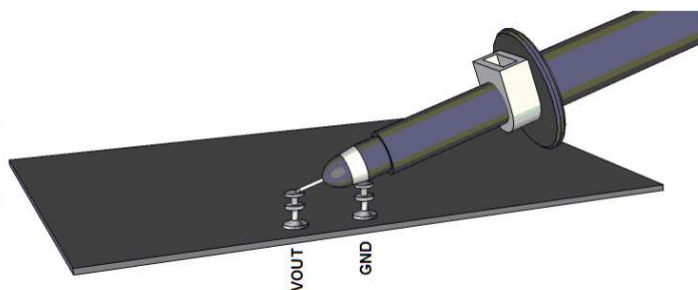

Figure 2. Technique for Measuring Output Ripple and Step Response with a Scope Probe
4. Connect an oscilloscope voltage probe as shown in Figure 2 in parallel with VM2. Set channel to AC coupled, voltage scale to 20mV and time base to 10 $\mu$ s. Observe the  $V_{OUT}$  ripple voltage.